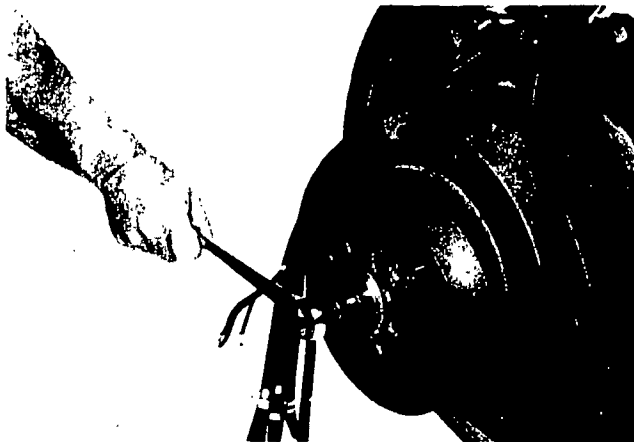

Figure 5. PMG Stator Removal
4. Use two screwdrivers to gently pry the PMG stator from the mounting pad. Slide the stator over the PMG rotor. Magnets used in the PMG are very strong and will resist PMG stator removal. See Figure 5.